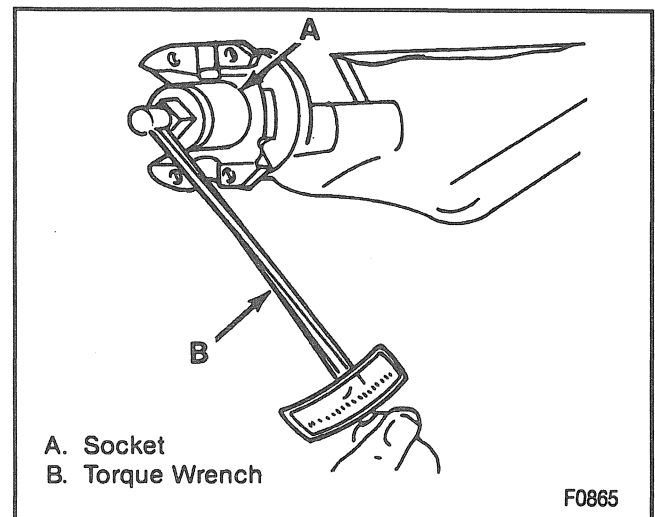

Figure 15—Measuring Pinion Rotating Torque
Remove or Disconnect (Figures 15 through 18)
- The torque required to rotate the pinion (Figure 15). Record the torque value for later reference.
- The rotating torque of the pinion and compare with the torque recorded earlier (Figure 15).